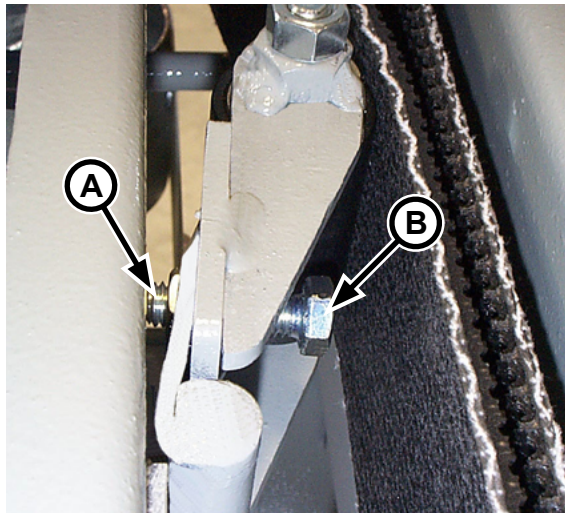
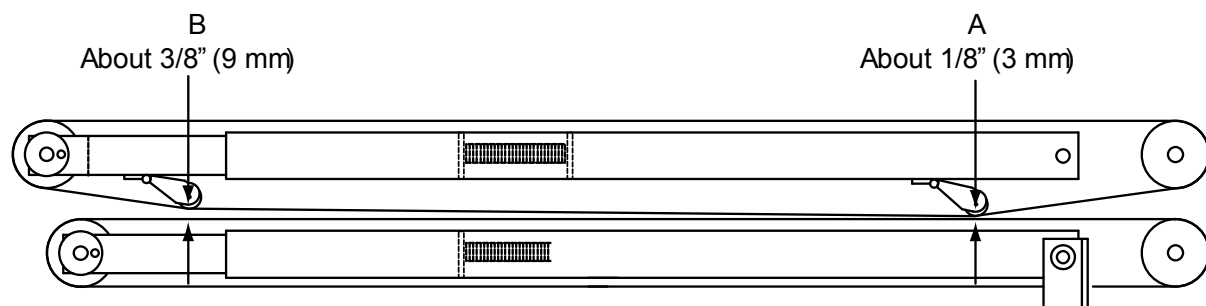

Figure 7-11: Spreader belt gap adjustment locknut (A) and bolt (B).
Figure 7-12: Lower spreader tension roller position-right spreader.
- a) Loosen the locknut (Figure 7-11, A) and turn the bolt (B) to adjust the gap to about 1/8" (Figure 7-12, A).
- a) Loosen the locknut and turn the bolt to adjust gap to about 3/8" (Figure 7-12, B).